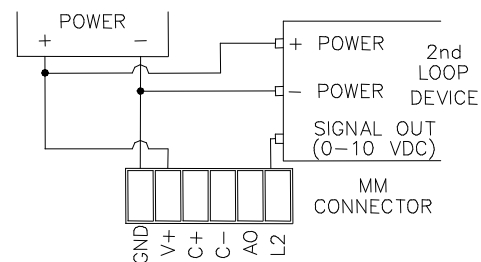

Figure 11
5. See figure 11 for second loop connections.
2. Attach the external feedback signal to the terminal on the electrical connector which corresponds to the L2 pin on the p.c. board. (See figure 11)